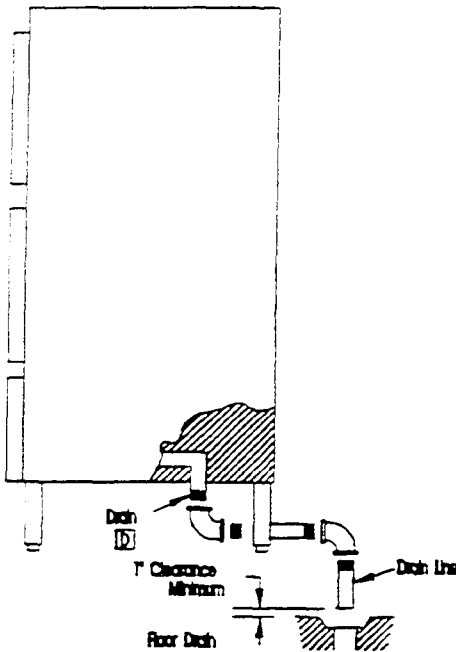

Figure 2-6. Drain Layout and Connections
Refer to Figure 2-6, and the dimension drawings (Figure 2-2). The drain outlet (D) discharges exhaust steam and hot condensate from the steamer. The drain exhaust vent and a 1-inch minimum clearance between the drain opening and floor drain provide the SteamCraft 10 Steamer with free air venting.
Furnishing and installing the drain lines and fittings is the responsibility of the owner and/or installer. Figure 2-6 illustrates a drain layout recommended by Cleveland Range. Observe the following instructions to determine the pipe size, the number of fittings required, and the layout of the drain line.